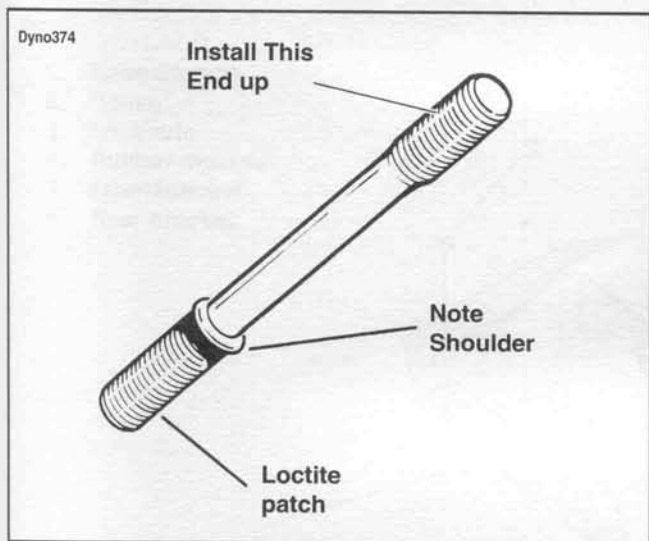

Figure 3-90. Cylinder Stud
3. See Figure 3-90. Install the studs in the crankcase with the shoulder side down. Studs have a Loctite patch on the crankcase end threads.